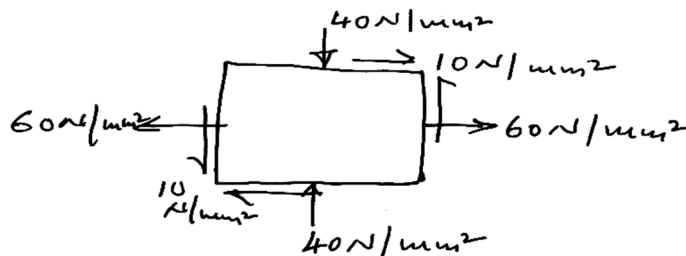

Fig. Q2(b).
- b. A plane element is subjected to stresses as shown in Fig. Q2(b). Determine principal stresses, maximum shear stress and their planes.